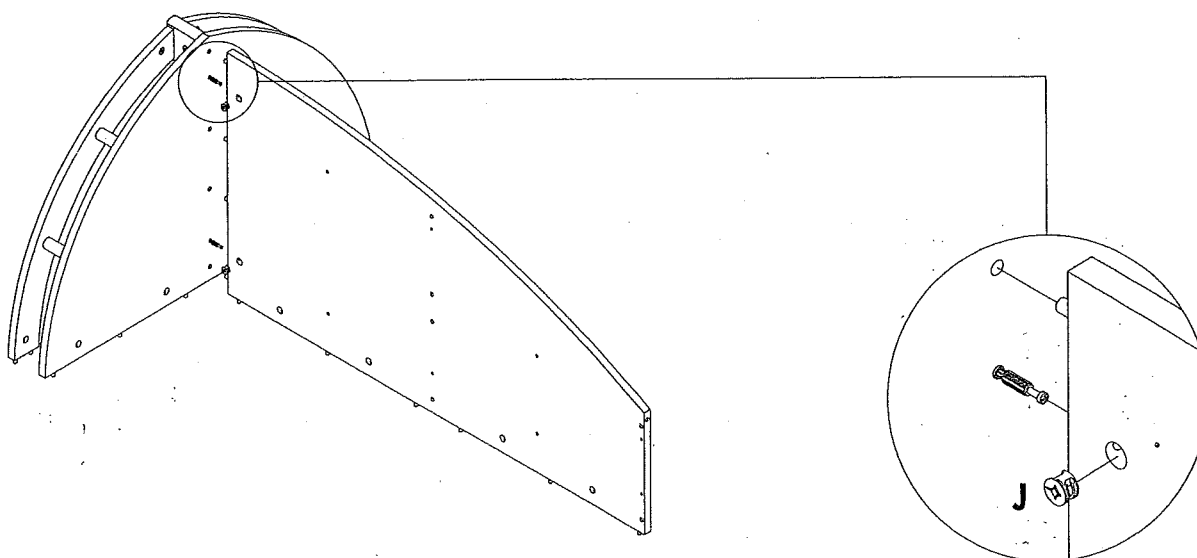

Figure 7
1. Connect both **Center Panel** and **Top Panel** together by using **Minifix (J)** as shown in **Figure 7**; tighten it up by using a Crosshead Screw Driver.